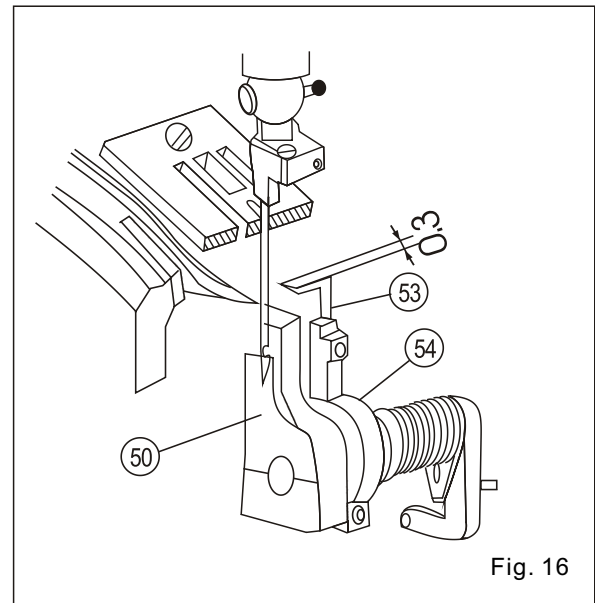

Fig. 16
(1) To install the lower thread feeding hook (No. 53 in Fig. 16), keep its point 0.3mm stretched out of the shaft of lower thread feeding hook, as indicated in Fig. 16.